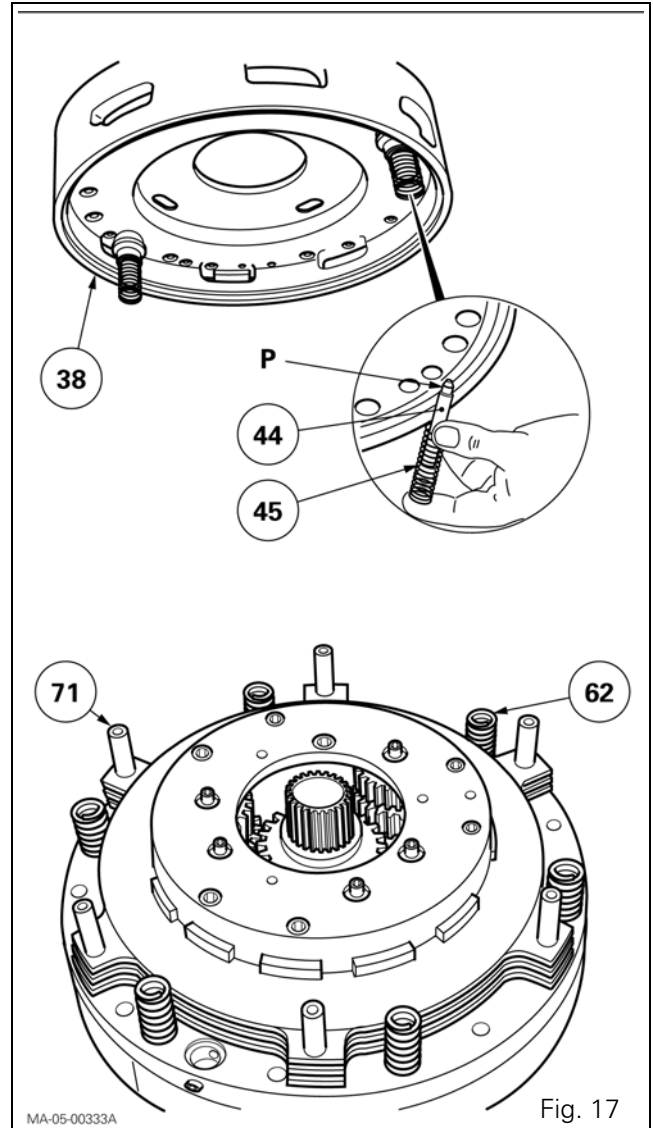

Fig. 17
93. Install the pins (71) and the springs (62) (Fig. 17) in their respective location on the input unit.